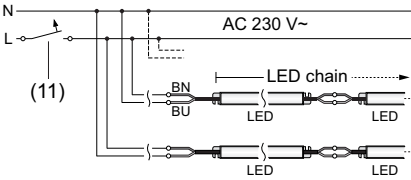

Figure 5: Circuit diagram
- Connect the light inserts according to the circuit diagram (Figure 5).